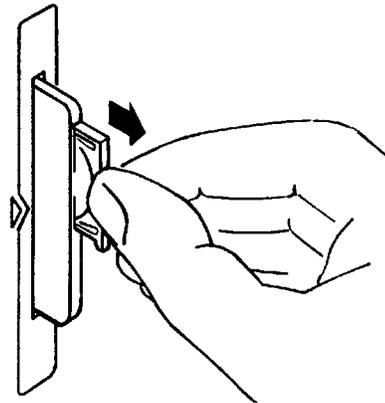

Figure 32 Replacing the Memory Card's Battery
2. Hold the memory card in the slot with one hand and pull the battery holder out with your other hand. (See **figure 32** .)